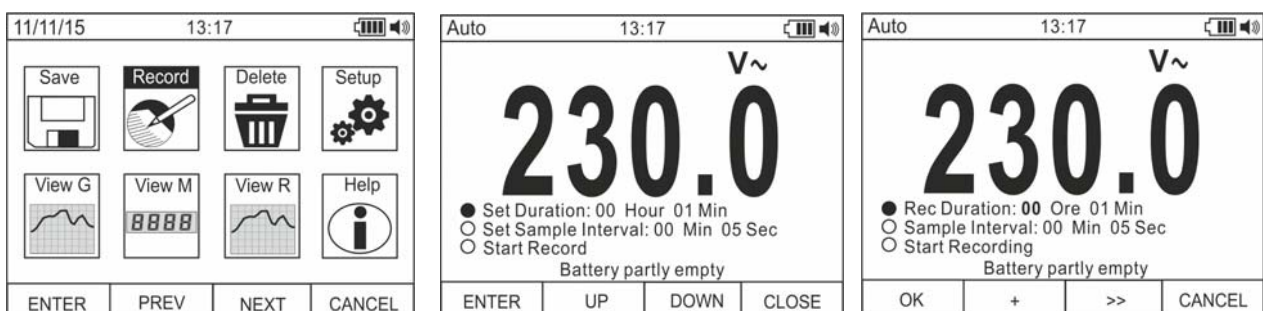

Fig. 10: Setting data recording
3. Use the **F2** or **F3** key to select symbol "Record" and press the **F1** key (see Fig. 10 – left side).
6. Press the **F1 (OK)** key to confirm the settings or the **F4 (CANCEL)** key to go back to editing (see Fig. 10 – right side).